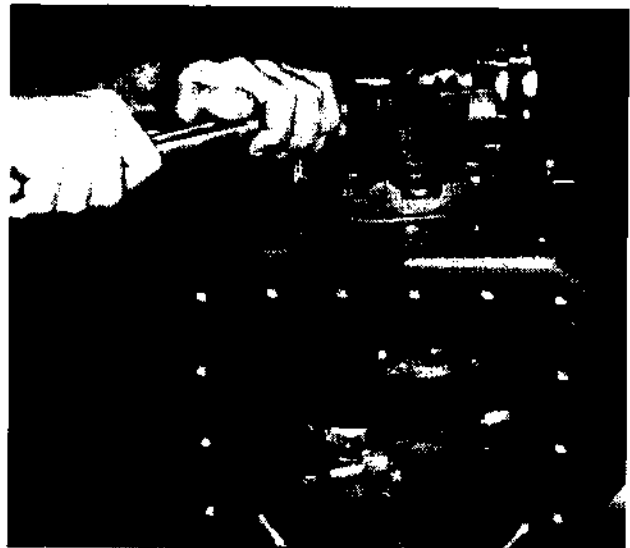

Figure 60
1. Remove the bearing head cap screws (Figure 60).